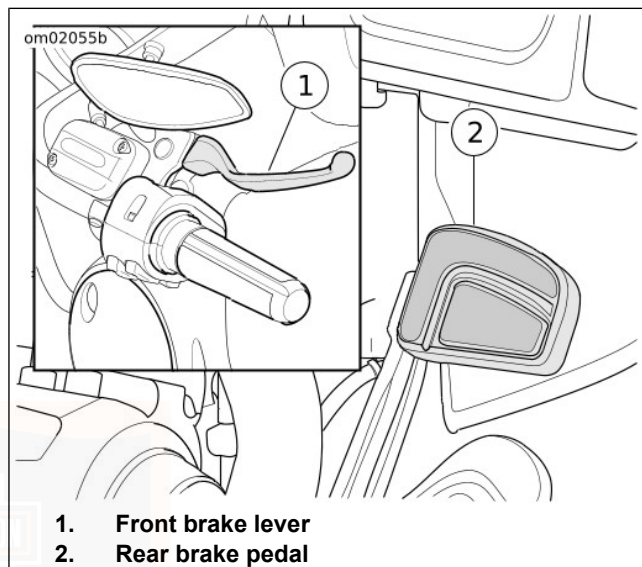

Figure 47. Brake Controls
See Figure 47. The front brake hand lever (1) controls the front wheel brake. The lever is on the right handlebar. Operate the hand lever with the fingers of the right hand.
See Figure 47. The rear brake pedal (2) controls the rear wheel brake. The pedal is on the right side. Operate the rear brake pedal with the right foot.